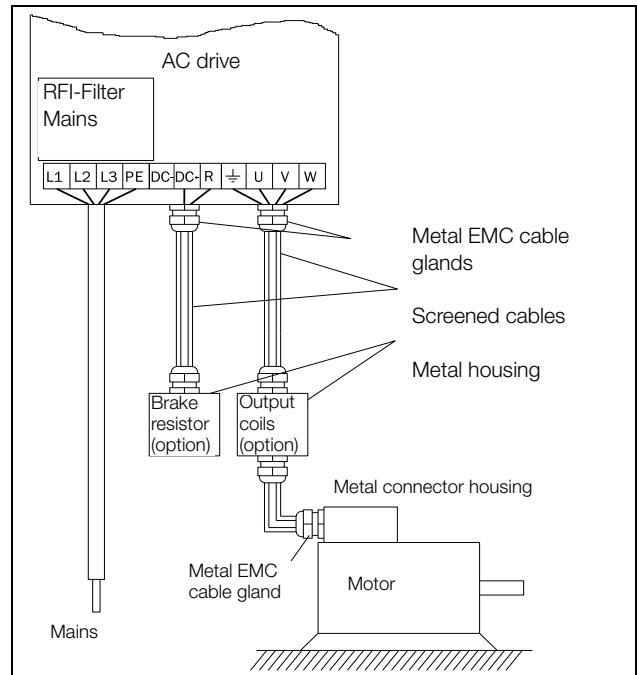

Fig. 66 Connection of mains and motor cables.
1. Connect the mains cables as in Fig. 66. The AC drive has, as standard, a built-in RFI mains filter that complies with category C3 which suits the Second Environment standard.
Connect the motor cables as in Fig. 66. To comply with the EMC directive you have to use screened cables and the motor cable screen has to be connected on both sides: to the housing of the motor and the housing of the AC drive.